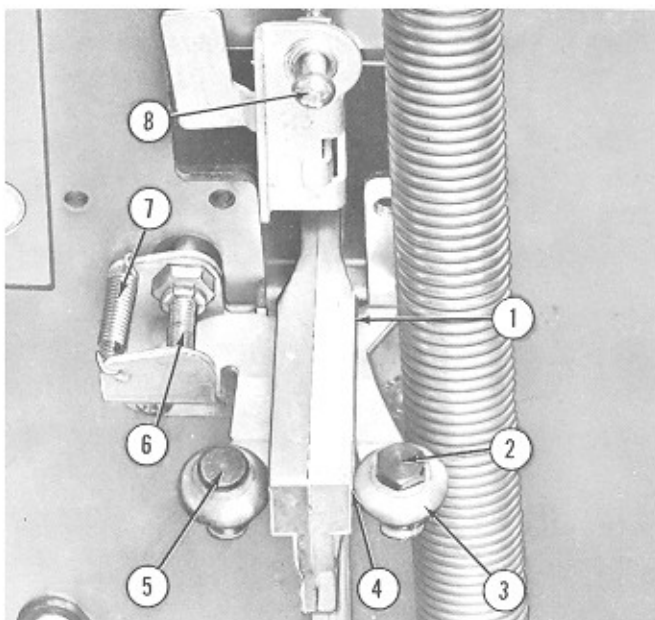
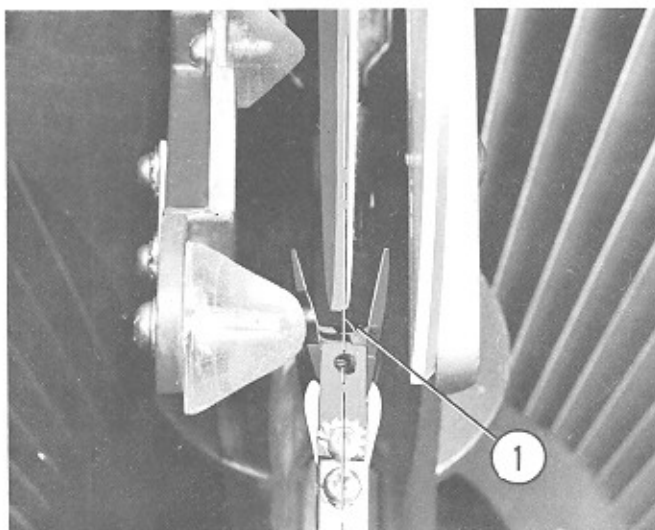

FIG. 37. LIFT ARM ADJUSTMENT - 2800
FIG. 38. RECORD LIFT ARM CENTERING
Stop the mechanism in play position with a normal size record (6-7/8" diameter) clamped on the turntable. Back out the Adjusting Screw (Fig. 37, Item 8) until the record lift arm drags on the edge of the record. Make a scribe mark on the head and turn the screw in two full turns. The clearance between the edge of the record and the end of the lift arm should be 3/64". Both lift arms should be checked.
(1) The record lift arms on the two hundred selection mechanism differ from those on the one hundred selection mechanism in that they are free of the guide rollers until the arms are nearly at maximum height, at which time the Ramp (Fig. 37, Item 1) on the lower end of the lift arm, contacts the Rollers (Fig. 37, Item 3) on the spring loaded bracket mounted on the underside of the chassis mounting plate. The ramp should enter and leave the rollers freely with a minimum clearance of .005" between the Rollers and Ramp as indicated at Figure 37, Item 4. This dimension may be adjusted, while the lift arm is in the raised position, by
loosening the screw in the hex head Eccentric Stud (Fig. 37, Item 2) and turning the stud for correct clearance. Tighten the screw and manually lower and raise the lift arm to check for freedom of action.
(2) Install a perfectly flat record in the record carrier and select either side. When in play position the record lift arm should center with the record as shown in Figure 38, Item 1. Should adjustment be required, the Screw (Fig. 37, Item 6) which is accessible from the top side of the chassis shelf,